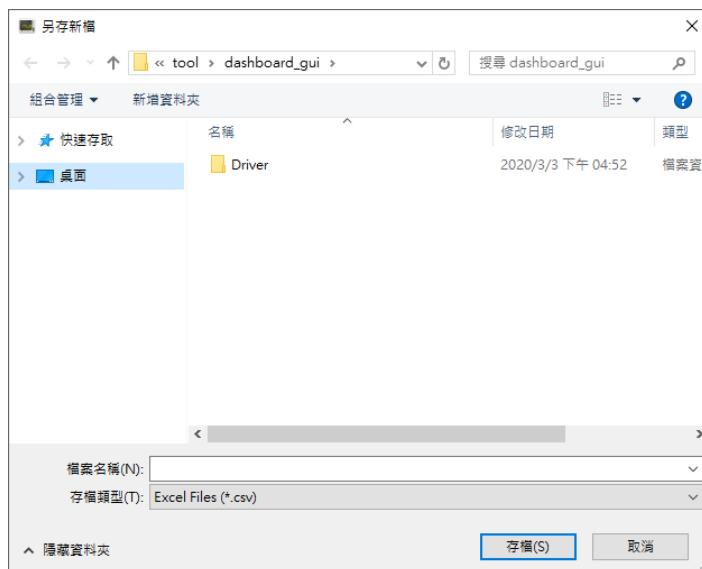

**Figure 4-14 Board Information**
- **Board Information:** There is a File page on the upper left of the Dashboard GUI program window, click the Board Information to get the current software version and the Apollo S10 board version, as shown in **Figure 4-14**.